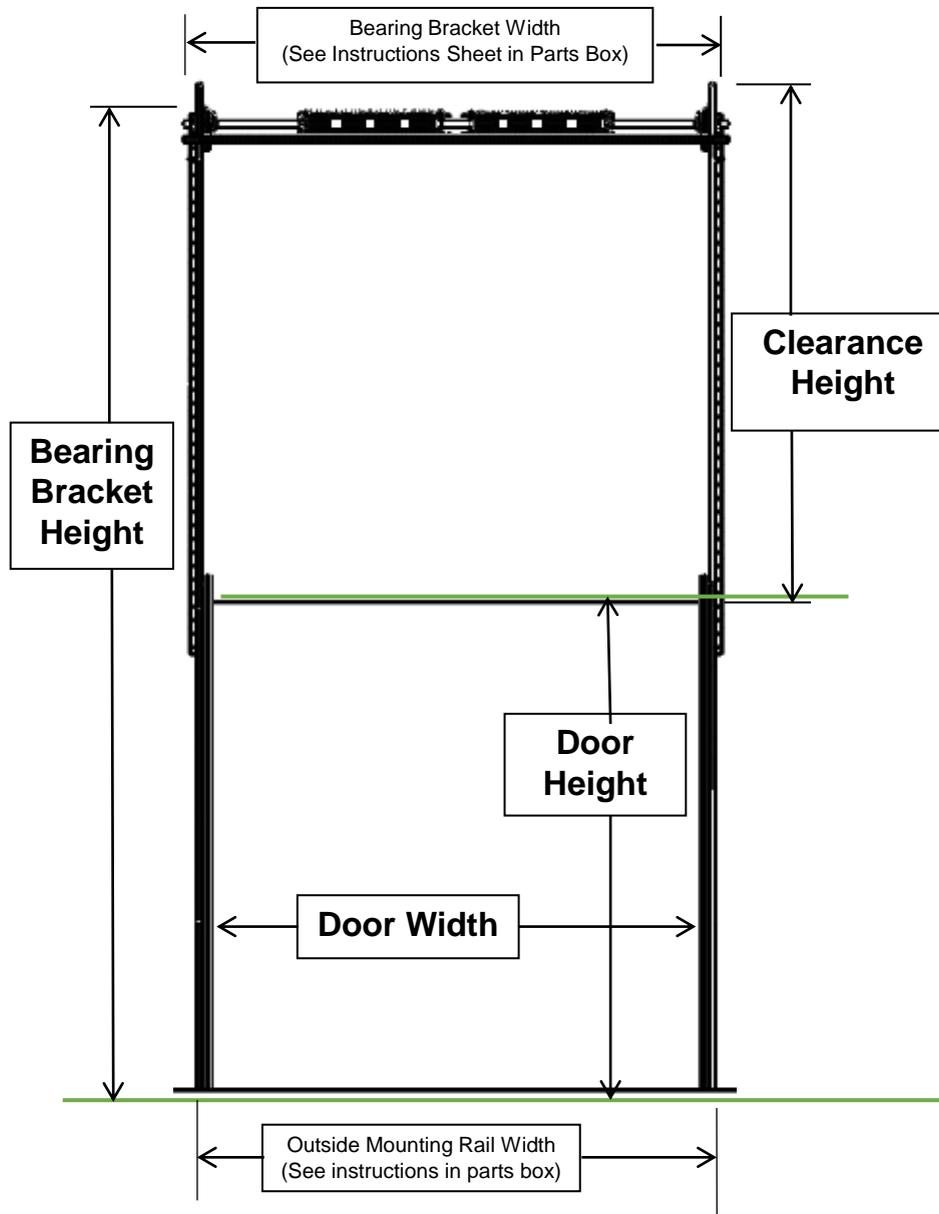

Figure 1 Key measurements and locations of mounting rails and end bearing assemblies.
3. Verify the minimum clearance to the sides and above the door. (**SEE FIGURE 1**).